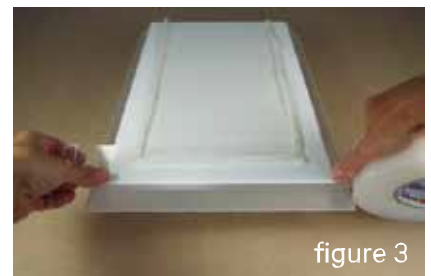

figure 3
3. Run a strip of Tenacious Tape along the top edge of the Lightblocks backing, leaving 5-10mm hanging over the mitre edge (see figure 3).